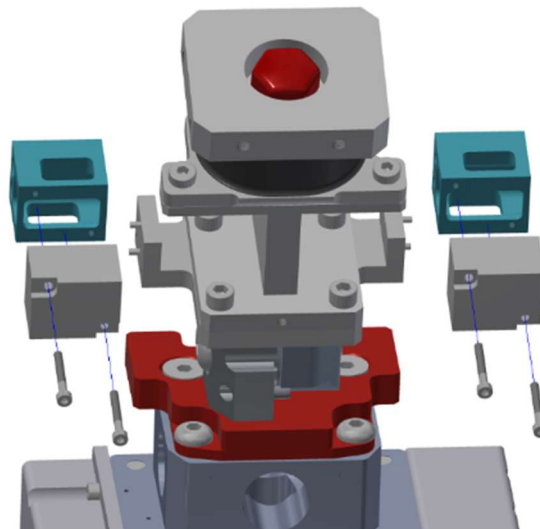

Figure 6-45. Assemble the On Board DAS Structural Replacements (474-3009-A) to the Thorax On Board DAS Mounting Brackets (474-3001)
- 6.3.14 Assemble the On Board DAS Structural Replacements (474-3009-A) to the Thorax On Board DAS Mounting Brackets (474-3001-A) using two M3 X 0.5 X 60 LG. SHCS per side (Figure 6-45).